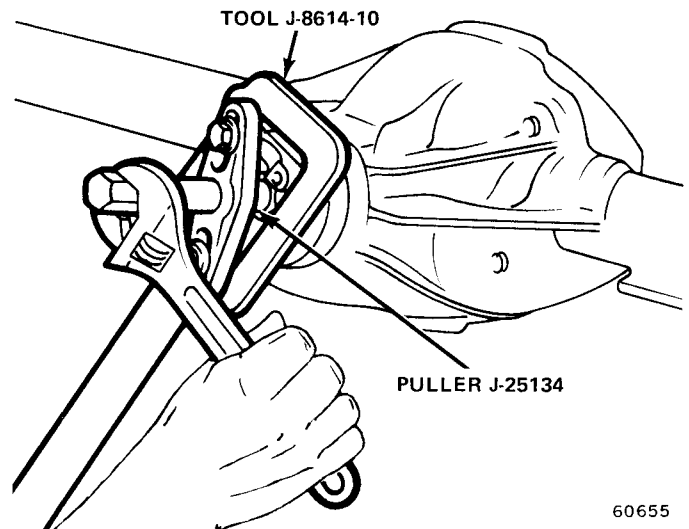

Fig. 10-29 Removing Yoke
(1) Raise and support vehicle.
(2) Index propeller shaft to front yoke for assembly reference and disconnect shaft at yoke.
(3) Remove pinion shaft nut and washer. Remove yoke using Holding Wrench J-8614-10 and Yoke Puller J-25134 (fig. 10-29).